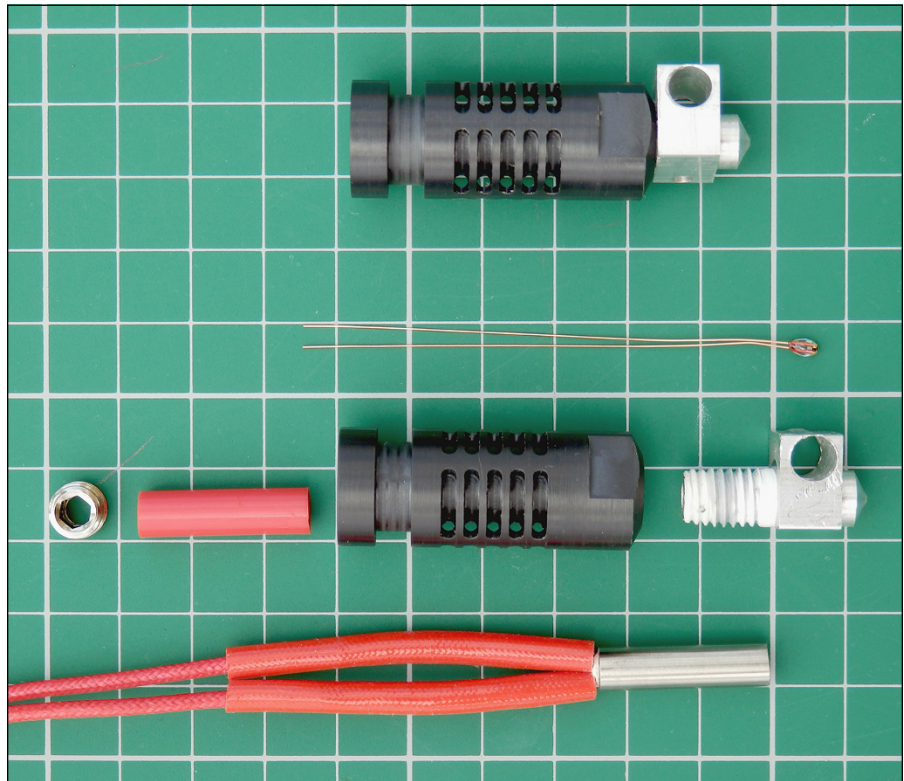

FIGURE 11-16: The J-head nozzle is now quite an old design, but it's still a great all-around choice.
- » **J-head:** This good all-around design is limited to temperatures below 250 °C because of the materials used. The J-head nozzle has more parts than the newer stainless-steel designs but is easy to use and service. Figure 11-16 shows assembled and exploded views of this nozzle.